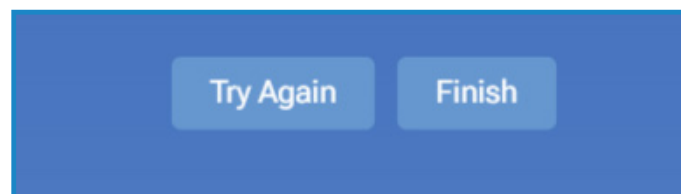

Figure 25: “Finish” Window
7. Follow the prompts to complete the measurement of all selected teeth/implants. The system will auto-advance from one measurement to the next by site number, with both audio and visual prompts. If inconsistent tapping is detected, the system will prompt a retest. When the test is completed, click “Finish” (*Figure 25*).